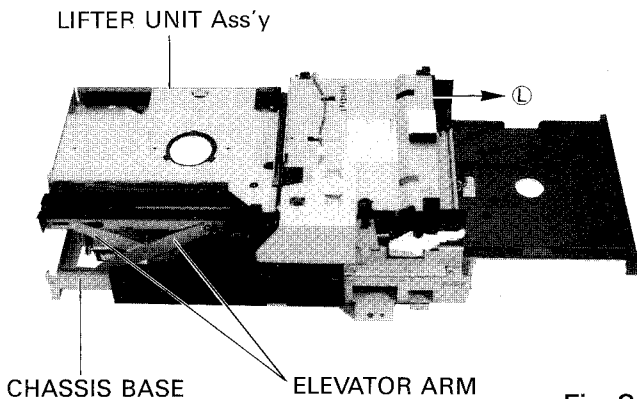

Fig.3
## 6. Removing the magazine holder (Fig.3)
**7. Removing the LIFTER UNIT Ass'y (Fig.3)**